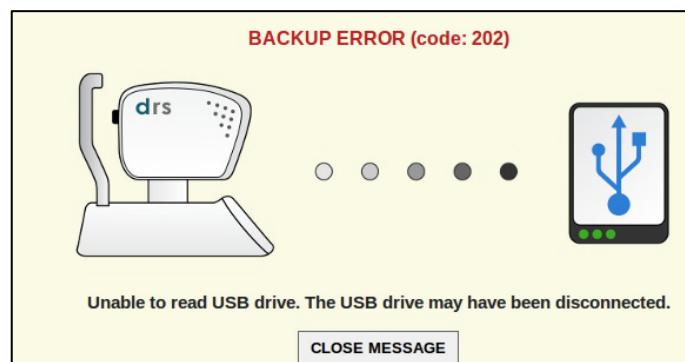

Figure 37 – Error message during backup
- IF DURING THE BACKUP PROCESS AN ERROR MESSAGE IS DISPLAYED (SEE Figure 37) THE RESULTING BACKUP IS NOT EFFECTIVE, DATA CANNOT BE RESTORED AND THE PROCESS SHALL BE REPEATED
To enable a wired connection, plug a network cable into the DRS and wait a few seconds. Press “SET NETWORK” to refresh the network configuration. Most networks do not require the operator to set the IP address manually, but in case it’s needed, click on the Manual button and enter the IP address (mandatory), netmask (mandatory), gateway (optional) and DNS (optional). Then select “SET NETWORK” (see Figure 37).
To allow the DRS to create a private network click on Private Network button (see Figure 37). The Private Network allows the use of the DRS remote viewer without using existing networks. It can be used both in wired and wireless configuration. To go back and use an existing network click on Set Network.